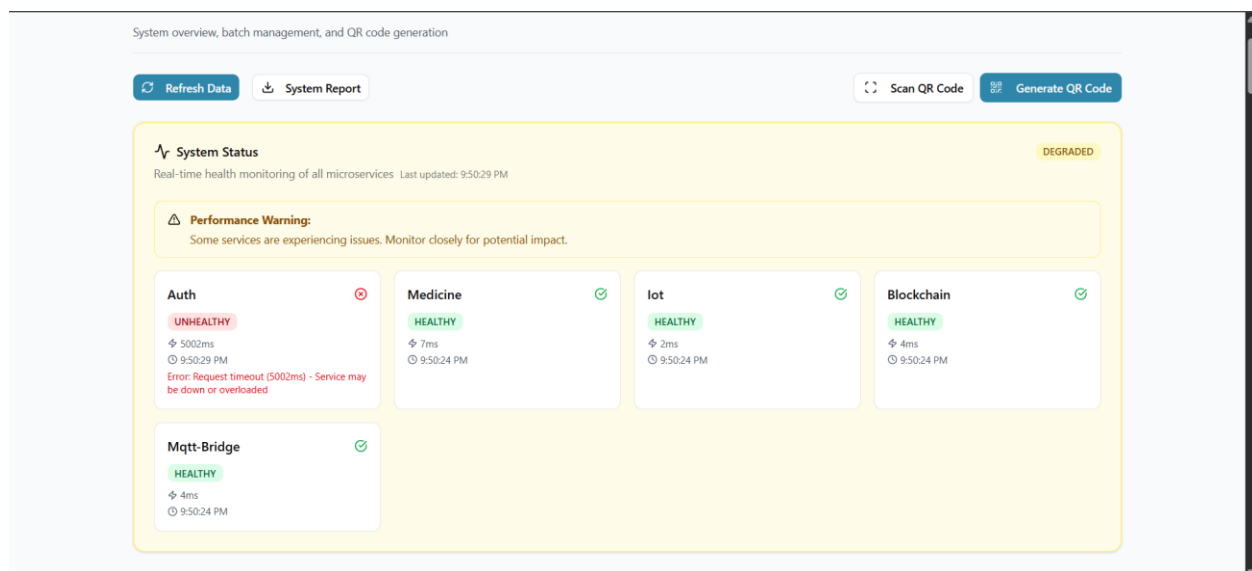

Figure 16. Shows the System Status feature when a certain is unhealthy.
- **Yellow background** – One or more services experiencing issues (Figure 16)